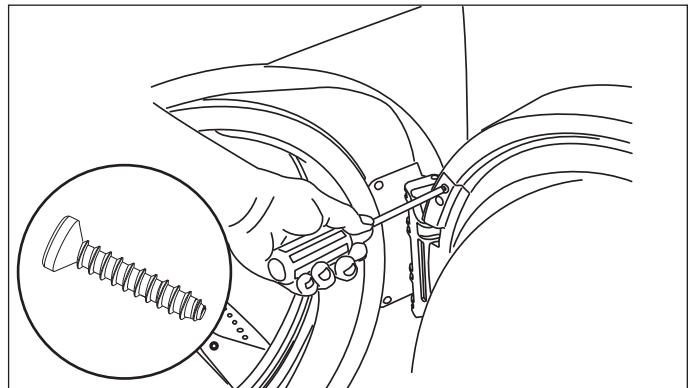

Figure 2-44.
3. Secure the door with 4 long, coarse-thread, counter-sunk screws. (See Figure 2-44)